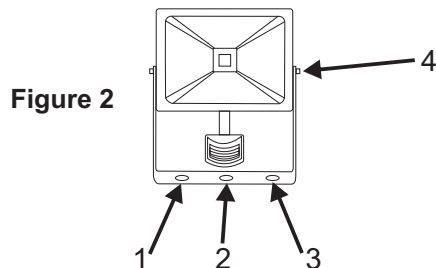

Figure 2
2. Unscrew the floodlight from its wall bracket as indicated in **Figure 2, part 4**.